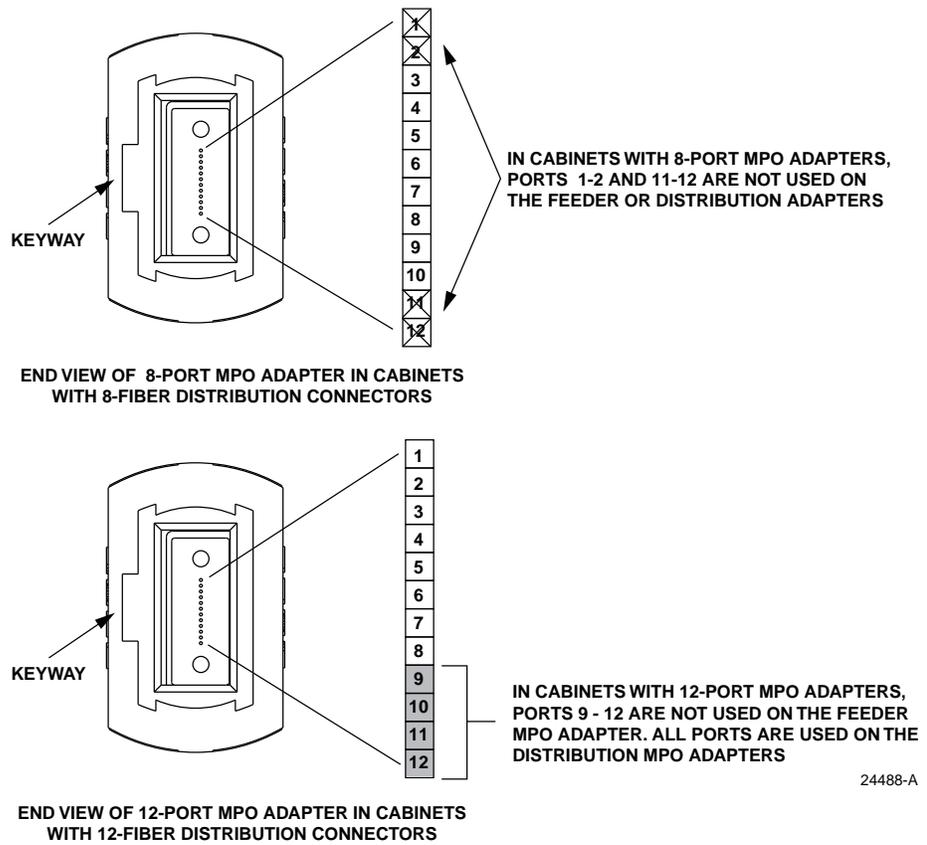

Figure 48. MPO Adapter Port Designations
12. Refer to Figure 48 and Table 5, Table 6, Table 7, or Table 8 to identify the optical ports associated with each MPO adapter.